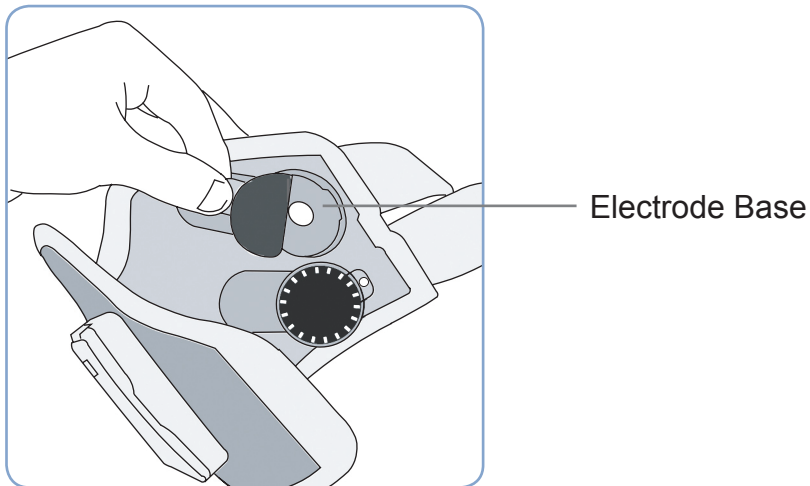

Figure 15: Removing Used Electrode
2. Pull the used electrodes gently out of their bases (See Figure 15). Take care not to detach the electrode bases from the Orthosis.